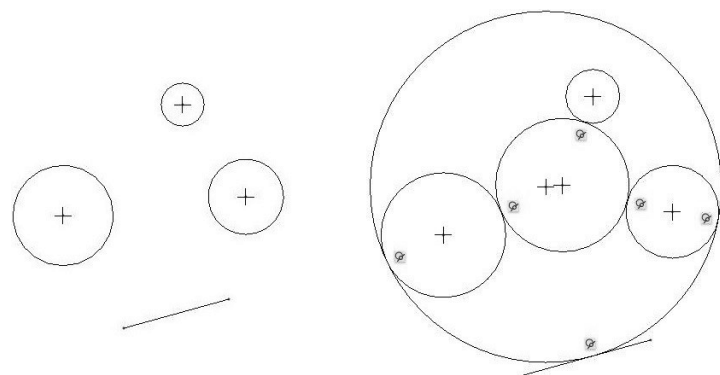

Figure 3-32 Circles Tangent to Others
Step 25: Draw the figure shown below on the right. Use  to create a circle that is tangent to the three circles and a circle that is tangent to the two bigger circles and the straight line segment. See Figure 3-32.